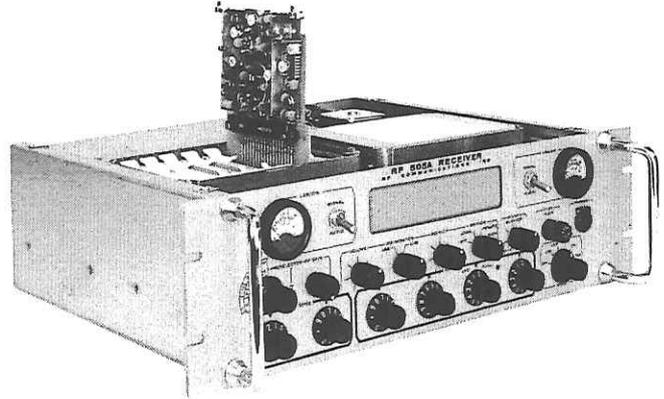

Figure 5.2 – RF-505A Shown With An Assembly Extended for Testing
- c. Connect the assembly to the extender, refer to figure 5.2.